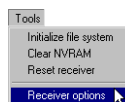

Figure 4-8. Tools->Receiver Options
2. Click Tools->Receiver Options (Figure 4-8).